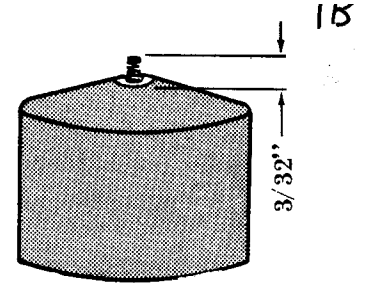

Figure 4. Carburetor Float Assembly
9. Check that float spring measures approximately  $3/32''$  from top of float (not insert) to end of exposed spring. (Figure 4)